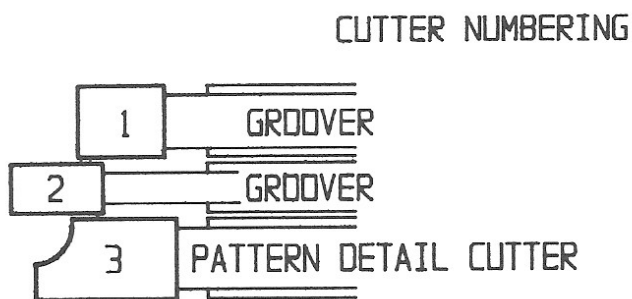

Fig. A-5
3. Install the 1/4" groover (cutter no. 2 in fig. A-5), such that it would cut while turning clockwise, when looking at the arbor from the threaded end.
4. Next install the rail (or pattern) detail cutter (cutter no. 3 in fig. A-5) on the arbor, with the radius next to the groover.
Note: The 33/64" groover (cutter no. 1 in fig. A-5) supplied with the rail (or pattern) set from Freeborn Tool is not used. In our application it is replaced with the 3-1/4" rub bearing.